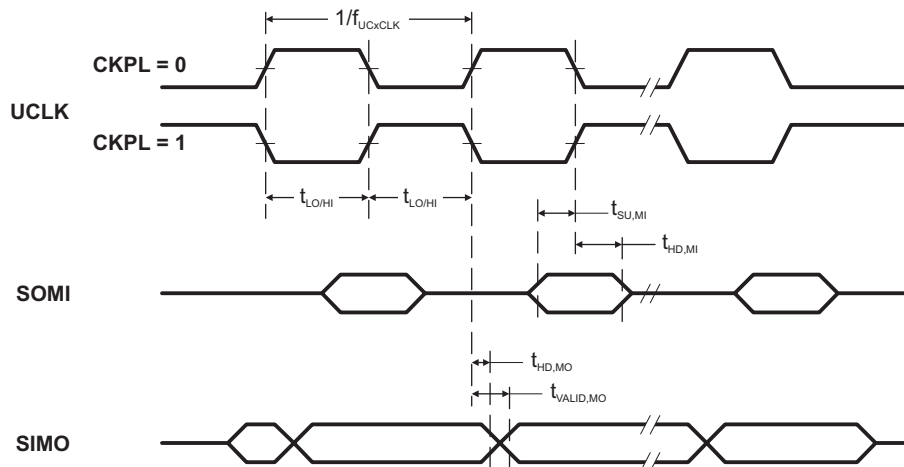
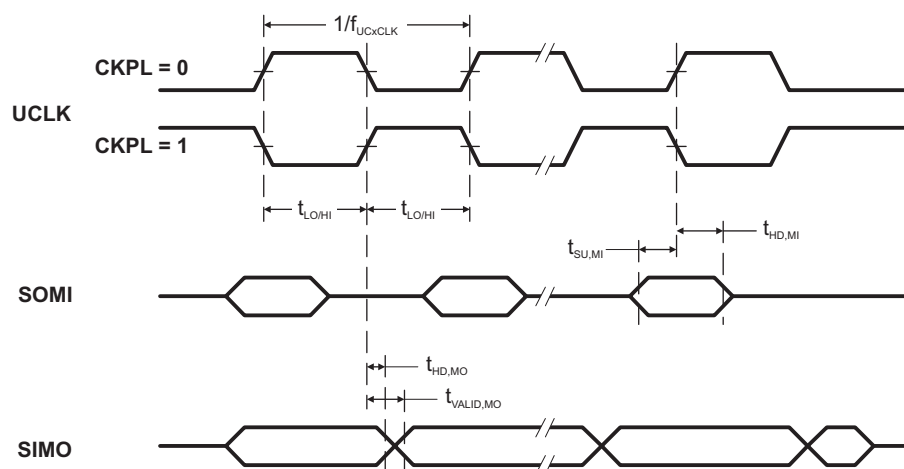

Figure 11. SPI Master Mode, CKPH = 0
Figure 12. SPI Master Mode, CKPH = 1
(see Note ⁽¹⁾, Figure 11 and Figure 12)
(2) Specifies the time to drive the next valid data to the SIMO output after the output changing UCLK clock edge. See the timing diagrams in Figure 11 and Figure 12.
(3) Specifies how long data on the SIMO output is valid after the output changing UCLK clock edge. Negative values indicate that the data on the SIMO output can become invalid before the output changing clock edge observed on UCLK. See the timing diagrams in Figure 11 and Figure 12.
- Specifies the time to drive the next valid data to the SOMI output after the output changing UCLK clock edge. See the timing diagrams in Figure 11 and Figure 12.
- Specifies how long data on the SOMI output is valid after the output changing UCLK clock edge. See the timing diagrams in Figure 11 and Figure 12.